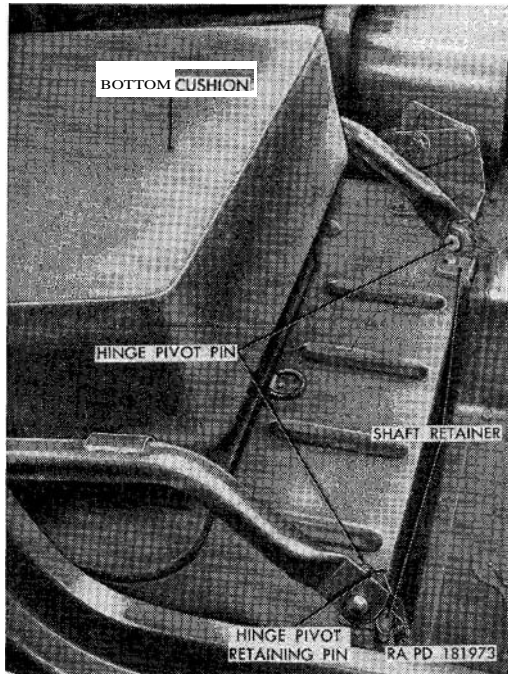
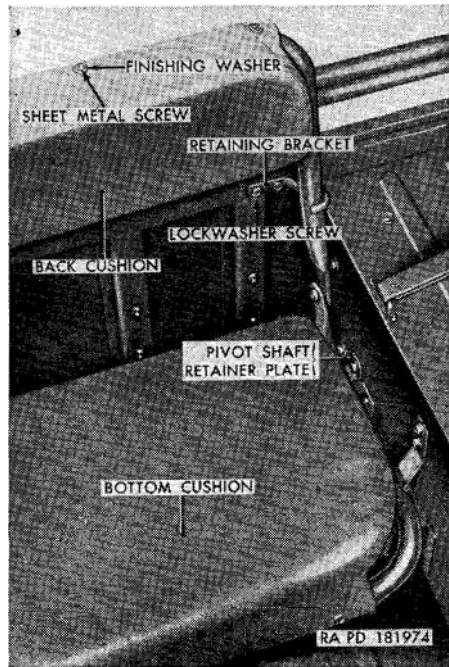

Figure 192. Passenger seat assembly (M38A1)—
Figure 193. Rear seat assembly (M38A1)—
*b, Passenger Seat Assembly (fig. 192).*
- (1) *Removal.* Remove the front seat hinge pivot retaining pin from each of the two front seat hinge pivot pins. Tilt the passenger seat assembly forward until the flat sides on the pivot pins are alined with the shaft retainer slots, and lift the seat out of the driver's compartment.
- (2) *Installation.* Position the passenger seat assembly over the pivot shaft retainers mounted on the top of the tool compartment, aline the pivot pin flat sides with the retainer slots and insert the pivot pins into retainer. Tilt seat backward to lock it in place. Lock the pivot pins to the retainers by installing one front seat hinge pivot retaining pin in the end of each hinge pivot pin.
e. *Rear Seat Assembly (fig. 193).*
- (1) *Removal.* Remove four lockwasher screws from two rear seat retaining brackets and remove the brackets from the body. Lift up on the seat bottom, folding it toward the seat back, and set the seat assembly in the vertical position. Remove the lockwasher screw from the rear seat pivot shaft retainer plates at each end of the seat frame, and remove
- (2) **Installation.** Place the seat bottom cushion on the bottom of the seat frame, align the two integral mounting clips with the mounting brackets on the frame, and slip the cushion into position on the frame. Secure the bottom cushion to the bottom of the frame with two  $\frac{7}{16} \times \frac{5}{8}$  lockwasher screws. Position the seat back cushion at the top of the seat frame and secure cushion to frame with twelve No. 12 finishing washers and No. 10  $\times \frac{1}{2}$  sheet metal screws. Install the driver's seat assembly (a(2) above). Install the passenger seat assembly (b(2) above).
e. *Rear Seat Cushion Assemblies* (fig. 193).
- (1) *Removal.* Remove the rear seat assembly (e 1) above.